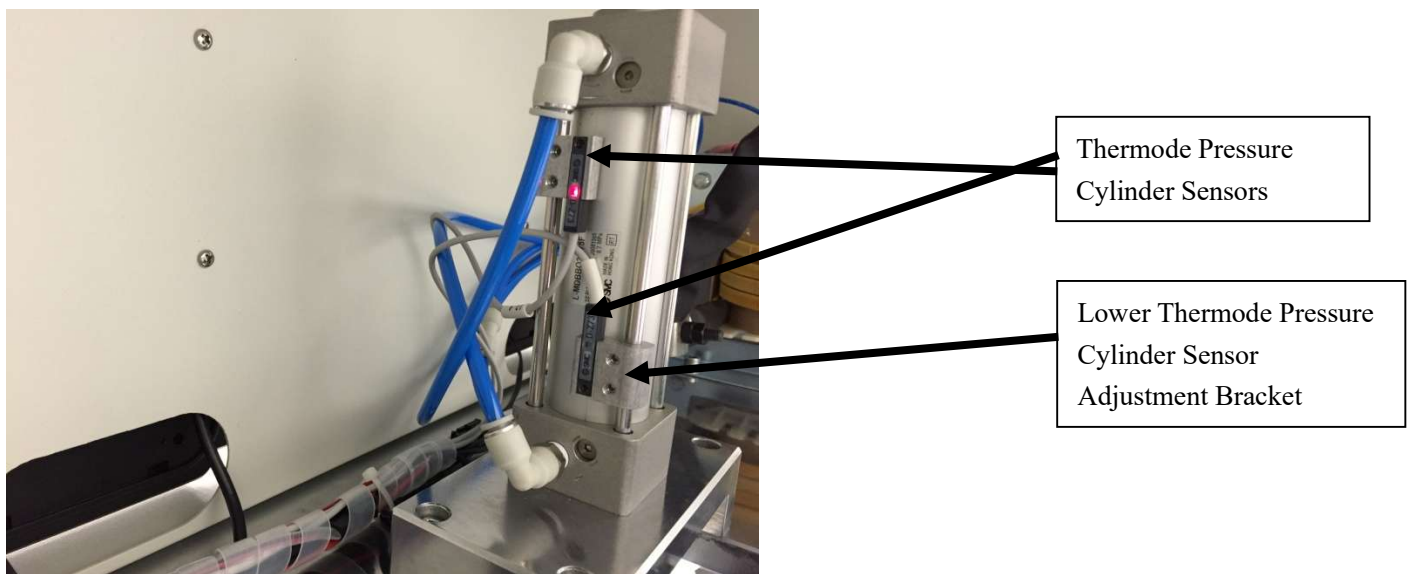

Figure 3.3
5.6 The thermode pressure cylinder sensors are located inside the top/rear door of the bonder and are shown in Figure 3.3. The top sensor tells the bonder when the thermode is at home position and the bottom sensor tells the bonder when the thermode is at bonding position. The bonder will not heat the thermode unless the sensor communicates that the thermode is in the bonding position. When bonding products of varying thickness, it is possible that the lower thermode sensor must be adjusted upwards or downwards slightly so that the sensor LED light is lit when the sensor is resting on the substrate. Loosen the sensor adjustment bolts shown in Figure 3.3 to allow movement of the sensor.